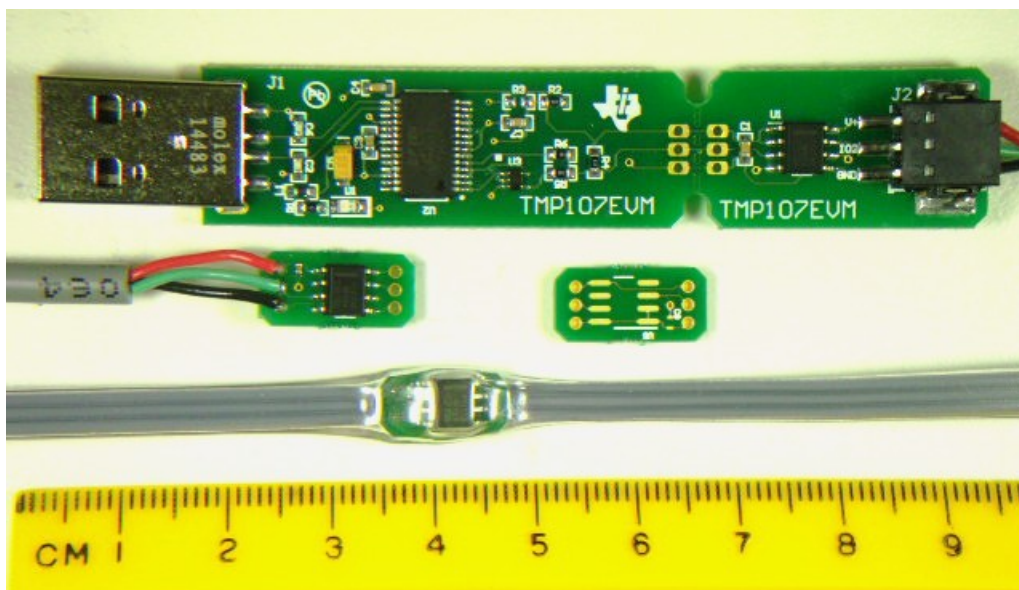
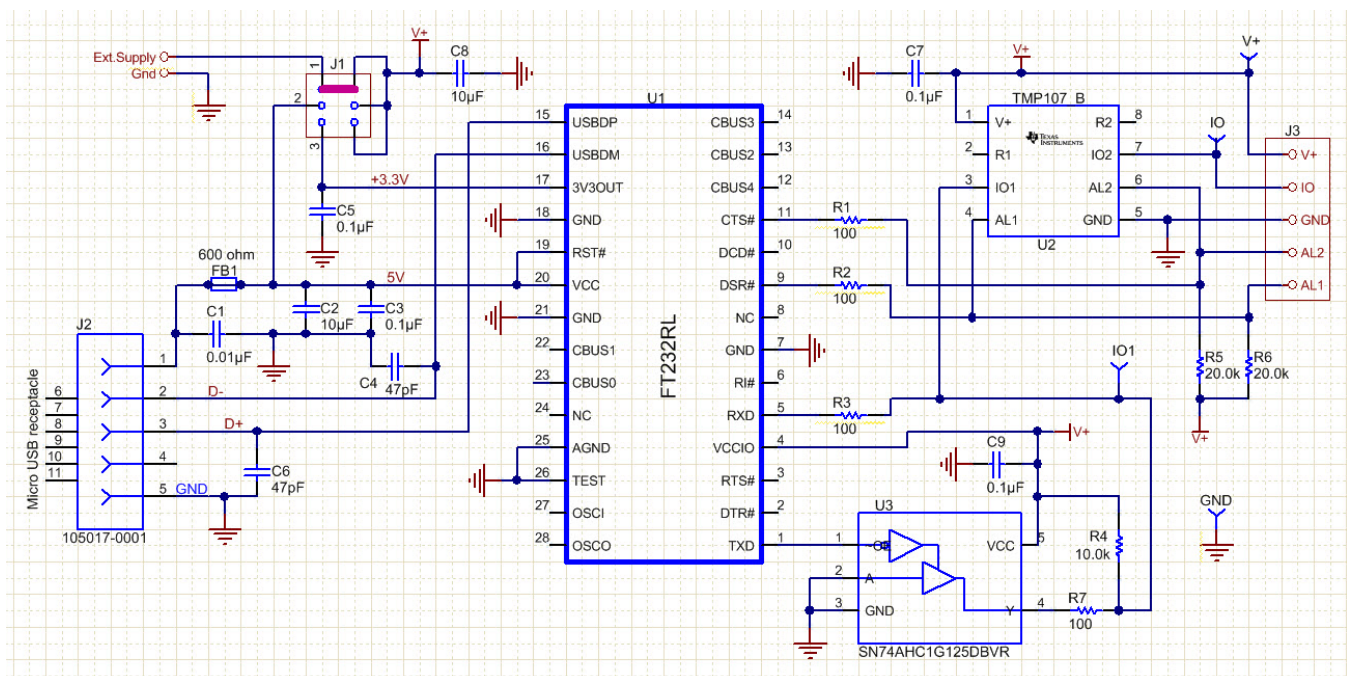

Figure 5. Example of Host Control Board Based on PC USB Port and Coupon Board With TMP107
Figure 6. Example USB Port-Based Control Board
The measurement chain usually consists of small printed-circuit boards (PCBs) connected with cables. Each PCB has a TMP107, a bypass capacitor, a small connector on one side, and a soldered cable with a connector on the other board side. The cable connector allows to easily add or remove devices along the chain to make the debugging process much easier. This simple schematic can be done on a single-layer board. To reduce TMP107 self heating and decrease the temperature resistance to the environment it is recommended to make large pin soldering pads, use boards with increased copper layer thickness, and avoid boards covered with protection stain, if possible. See example of the TMP107 EVM and its associated temperature sensing boards in Figure 5.
- PC USB port** – This option is very popular due to circuit simplicity and possibility of writing system software with high-level programming languages like C, Visual Basic, or LabView. There are many USB-to-UART devices available today. One such device is the FT232R from FTDI. The board implementation is shown Figure 5 and board schematic in Figure 6. When connected to a Microsoft® Windows® PC, the FT232R enumerates as a serial comm port; therefore, all communication happens using the standard serial port commands. The FT232R IC has an onboard 50-mA, 3.3-V voltage regulator which can be used for the chain supply. It also has a separate pin to set the UART port IO voltage level. This provides an easy method to ensure proper level matching between controller and chain interface. If the Alert signals are used, the FT232R inputs CTS and DSR can be accessed via auxiliary UART commands. (Note the CTS and DSR signals will be inverted when reading from the serial port into PC software.)
An open drain buffer (U3, Figure 6) is needed to protect the TXD pin in miscommunication case when the host is trying to send data into the chain and the first part of the chain is still sending data to the host. The TMP107 output driver is capable to drive up to 45 mA current and can damage the TXD output if the buffer is not used. A resistor (R3, Figure 6) is needed to limit ESD currents and to attenuate glitches that may occur.
It is highly recommended to locate the first device of the chain on the control board. This allows easy debugging of hardware and software without worrying about the cable connection to the chain and verifying that communication is working with the first device placed in best condition. It also makes the first TMP107 responsible for the long wire communication to the second device making board design much simpler. Jumper J1 (Figure 6) selects either the 3.3-V output from the FT232R device, 5 V from the USB port directly, or an external supply. It is not recommended to use 5-V supply coming from the USB header as a main chain supply. This voltage is often noisy and since the noise spectrum significantly varies based on the activity of the PC and from one PC to another, it can affect the system precision and stability.